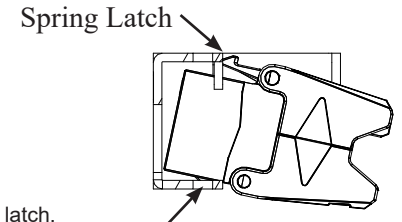

FIGURE 2
2. Engage fixed latch on terminated jack, snapfits or modules into unloaded panel as shown in Figure 2.